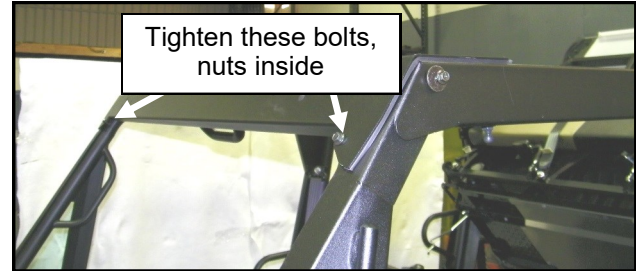

Fig. 9.1 Windshield support
9.1 Per figure 9.1, place the windshield support on top of the headers and A-pillars. Attach the windshield support to each A-pillar with a 1/4-20 bolt and nut. Tighten these bolts.